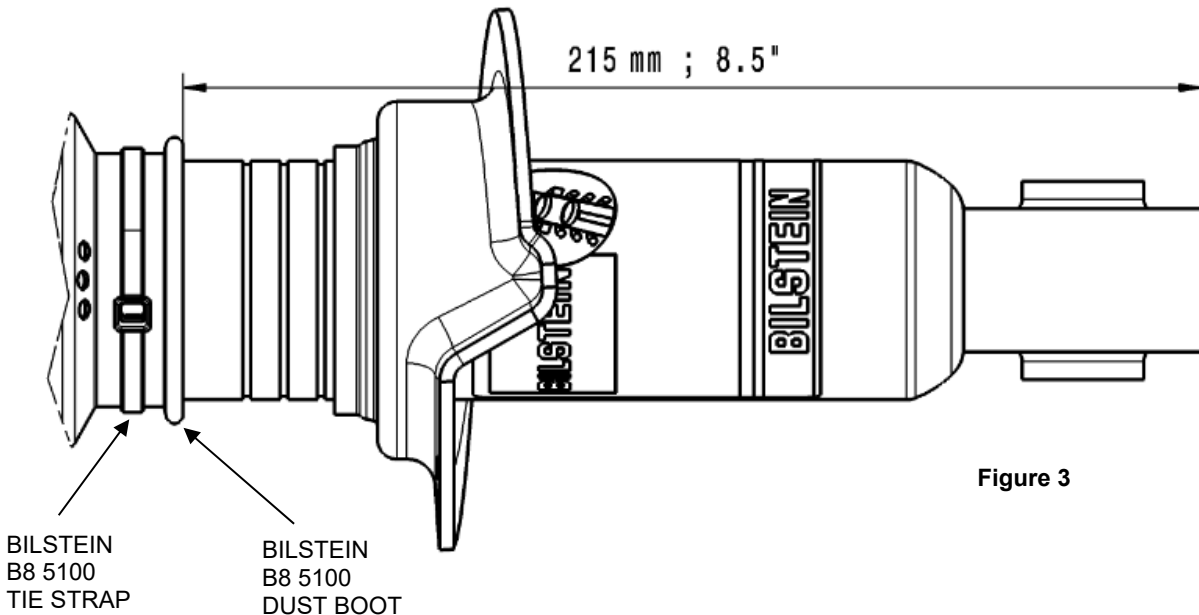

Figure 3
- G. Install the dust boot. If you are installing **B8 5100** dampers proceed to install tie strap as shown below in Figure 3 and position the bottom of the boot to be approximately 215mm (8.5") from the bottom of the lower mount, snip excess end of tie strap when finished.